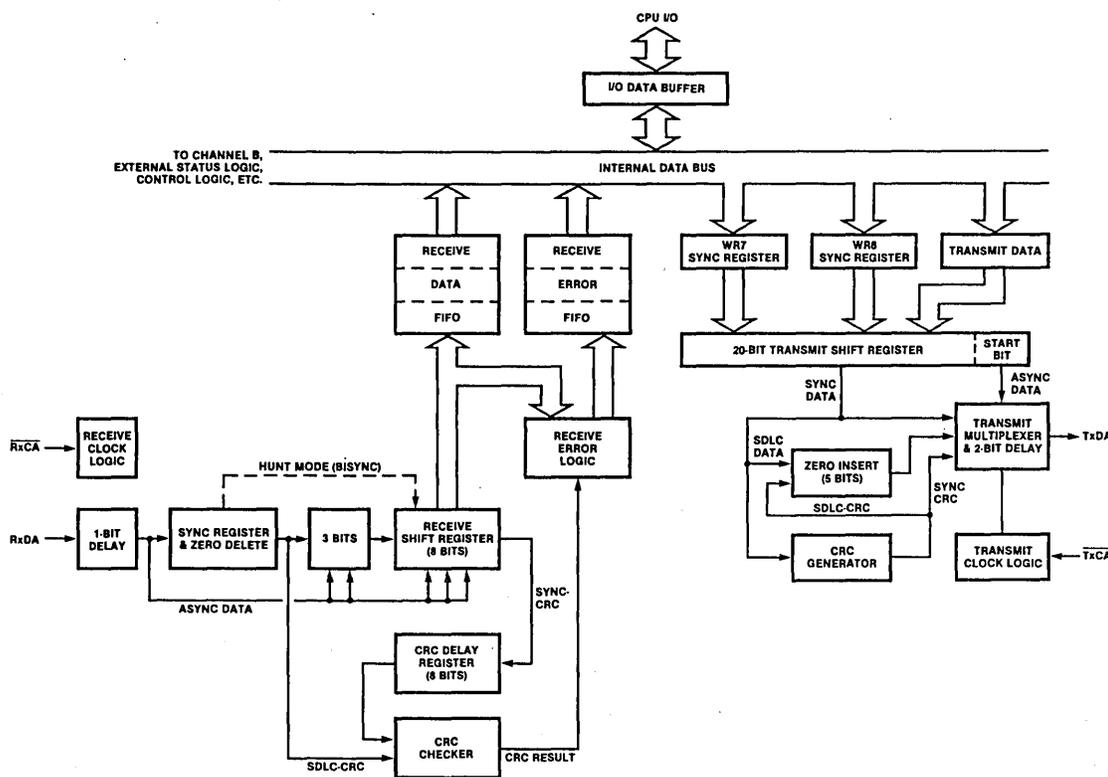

Figure 12. Transmit and Receive Data Path (Channel A)
**Data Path.** The transmit and receive data path illustrated for Channel A in Figure 12 is identical for both channels. The receiver has three 8-bit buffer registers in a FIFO arrangement, in addition to the 8-bit receive shift register. This scheme creates additional time for the